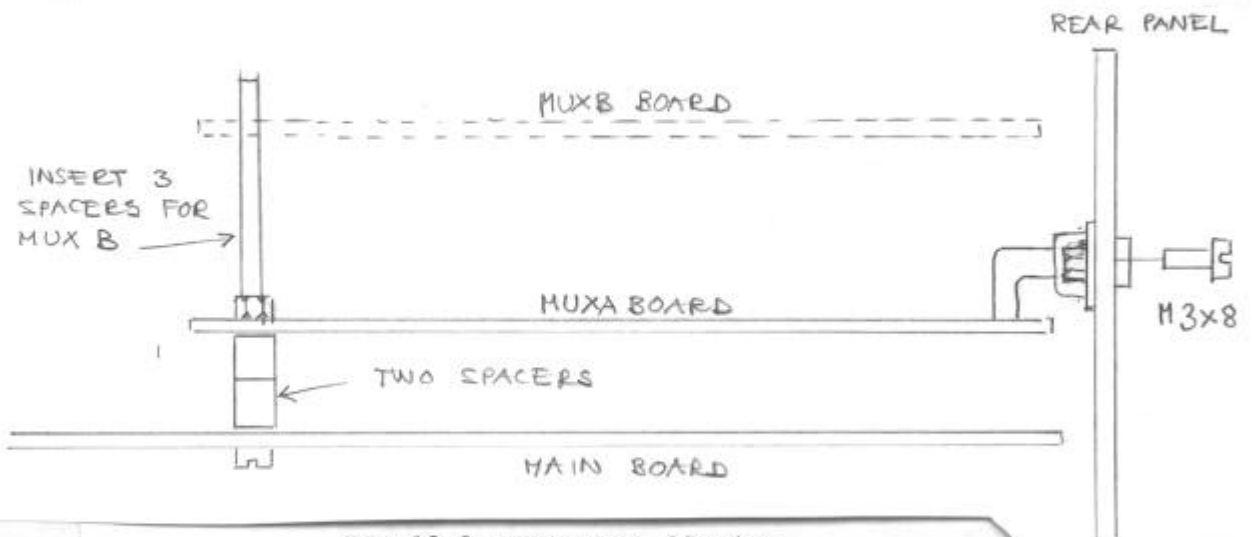

FIG 10-2: MUXA Installation
- D) Fix the long screw from bottom side as shown by figure 10-2.
- G) Install the circuit board according to Fig. 10-2. Insert the 8-pin connector into J803 on the AVS-46 main board and the 26-pin connector into the vertical row connector on the display board. Coloured strip is now upwards.